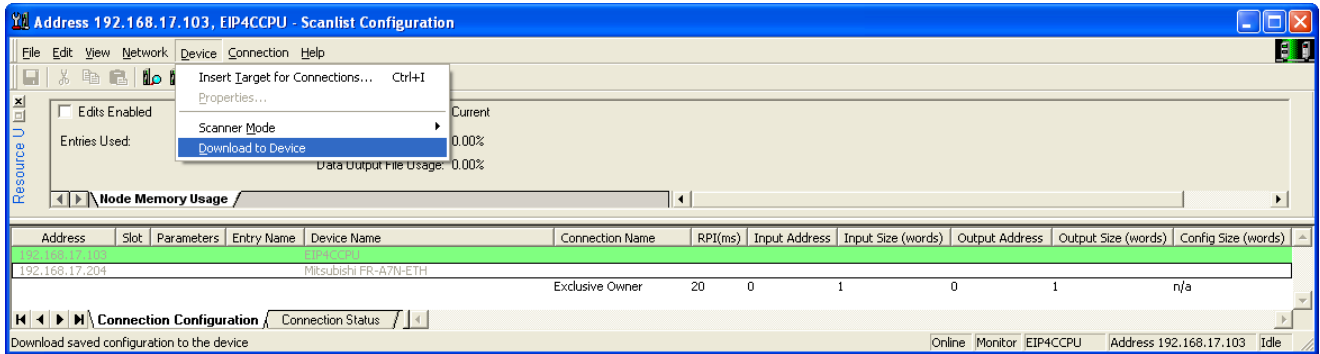

Figure 68: RSNetWorx Download Configuration to Scanner
- d) Now download the configuration to the scanner by navigating to Device...Download to Device (see Figure 68). Click Yes to proceed.